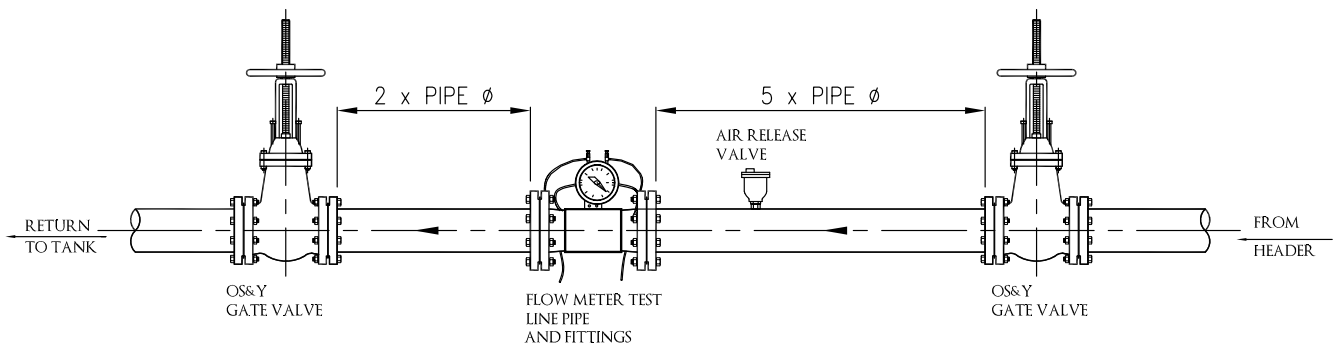

Fig. No. 12
The flow meter arrangement of NAFFCO pump set is built as per flow meter manufacturer's instructions. The operating guidelines are following (See fig. no. 12 also):
2. Open OS&Y test line valves (shown in the fig. no. 12) or butterfly throttle valve (according to- system requirement).